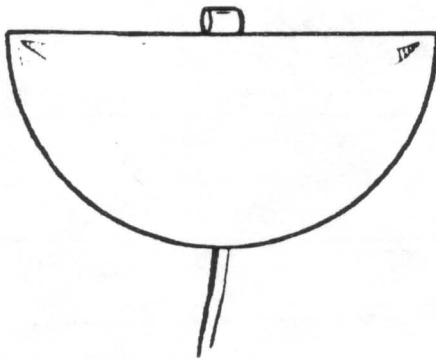
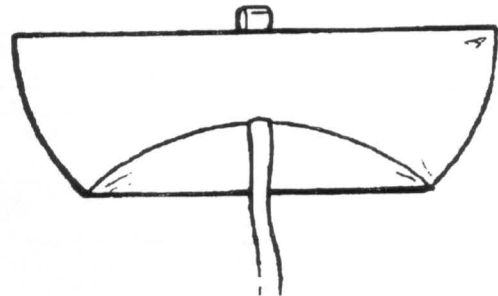

FIG. 1
FIG. 2
- 1) Lay the pilot chute out flat with the mesh side up. Fold the excess bridle on top of the layed out parachute, and fold the pilot chute in half over the bridle (FIG. 1). Now fold the curved side up about 4" (FIG. 2).